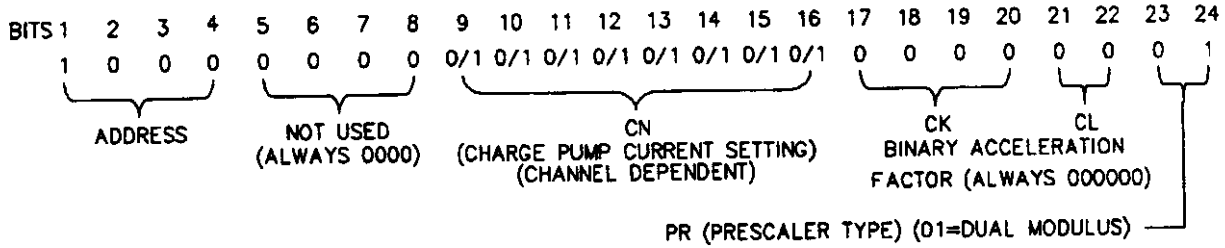

Figure 3-2 B-WORD
The B-Word is 24-bits long (see Figure 3-2). It contains the Address, Charge Pump setting factor (CN), Binary Acceleration factors (CK, CL), and Prescaler Type (PR).